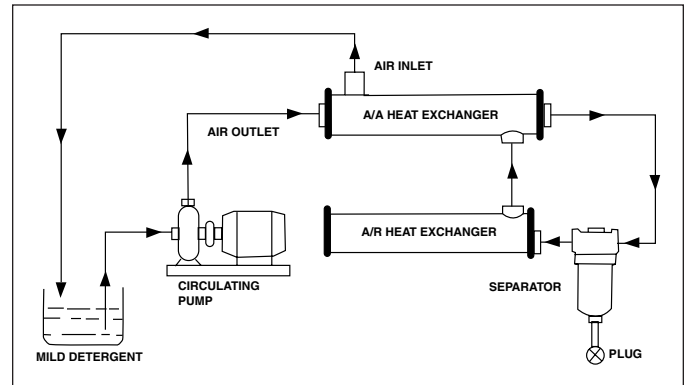

FIGURE 2 — BACK FLUSH FLOW DIAGRAM
5. Check the pressure drop across the air dryer at full capacity flow. If it is higher than specified value (normally 5 PSI or less), consult factory. If pressure drop increases over years of operation, it may be due to particulate buildup from air compressor intake. In that event, back-flush the dryer with any **MILD DETERGENT**. See Figure 2.